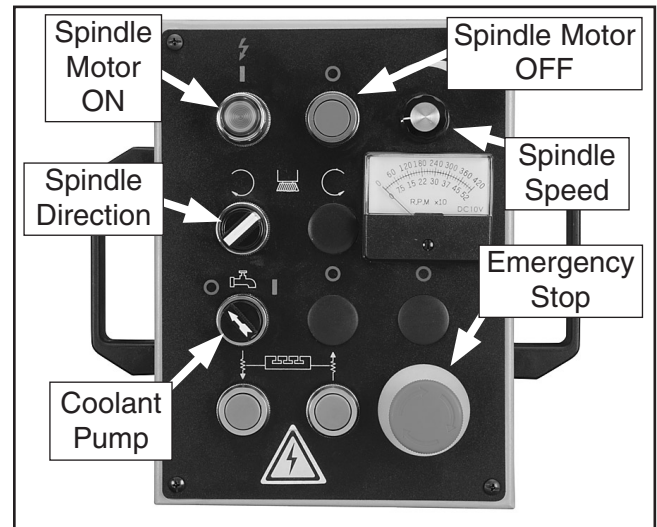

Figure 22. Control panel.
7. Push the emergency stop button, then twist it clockwise so it pops out. When the emergency stop button pops out, the switch is reset and ready for operation (see **Figure 22**).